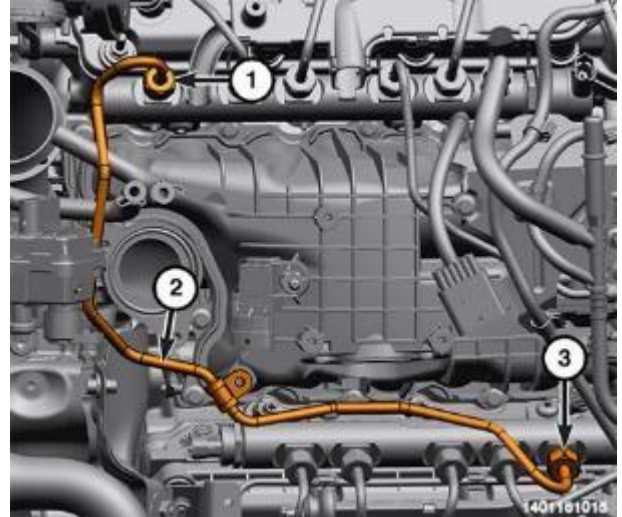

Figure 34 – Crossover Tube
65. Unscrew the union nuts (1, 3) and remove the fuel crossover tube (2) and discard (Figure 34).